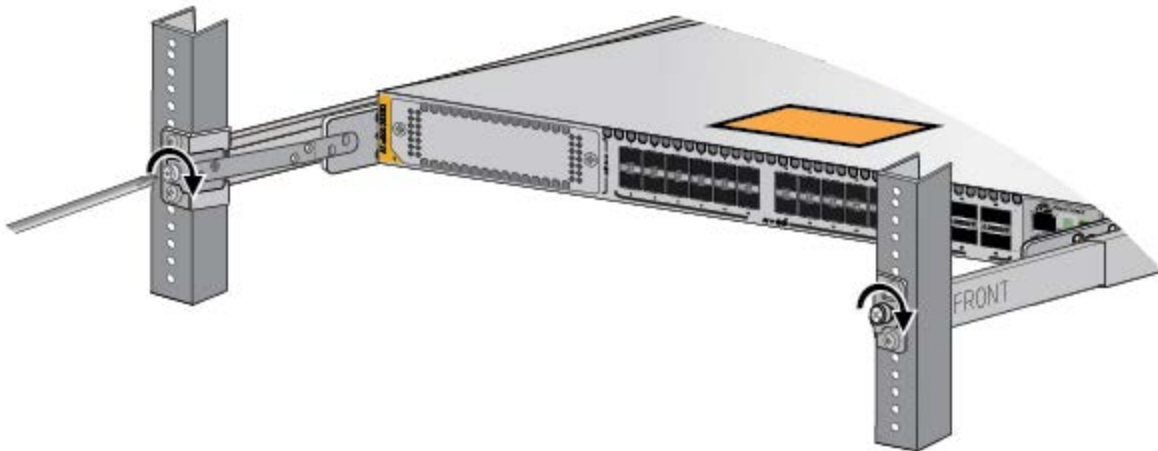

Figure 89. Tightening the Two Screws on the Fixed Brackets
4. Tighten the two screws on the fixed brackets to secure the switch to the equipment rack. Refer to Figure 89.